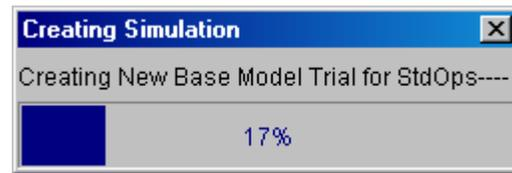

Figure 14.13 Creating Simulation Window
9. Click **OK** to close the Simulation Period dialog box. The **Creating Simulation** window (Figure 14.13) will inform you of the status as ResSim creates the Simulation you have defined.